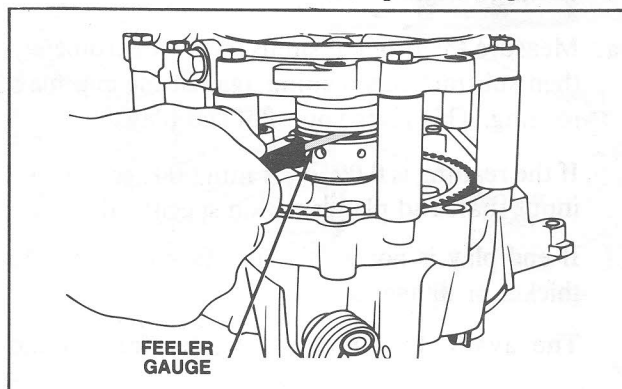

Figure 106 Measuring Clearance Between Collars
9. Using a feeler gauge, measure the gap between the shim selector collars in three places. (Figure 106).